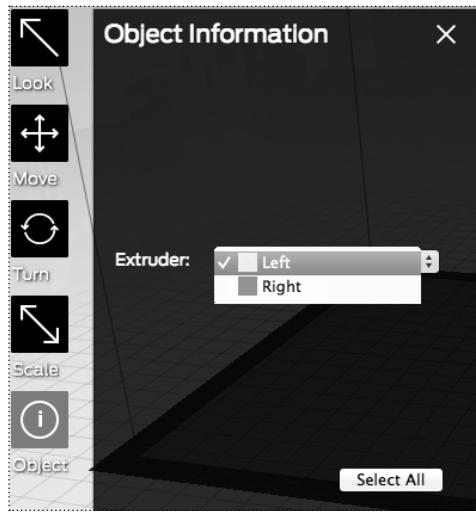

Fig. 9.4
12. In the Object Information submenu, in the Extruder field, select an extruder to print *Lotus\_color1.stl*. [Fig. 9.4]